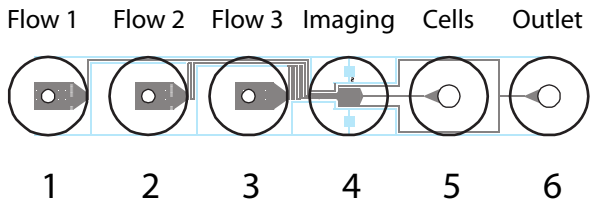

Figure 3 Single Unit Well Layout
1. The Y16 microfluidic unit consists of 16 identical flow units as depicted in Figure 3. Each unit has 3 inlets, an imaging area, a cell loading, and an outlet. The plate is shipped pre-filled with sterile dl water containing penicillin/streptomycin, which can be replaced with a buffer of choice prior to experiment. Plate performance guaranteed up to the 6 month expiration date.